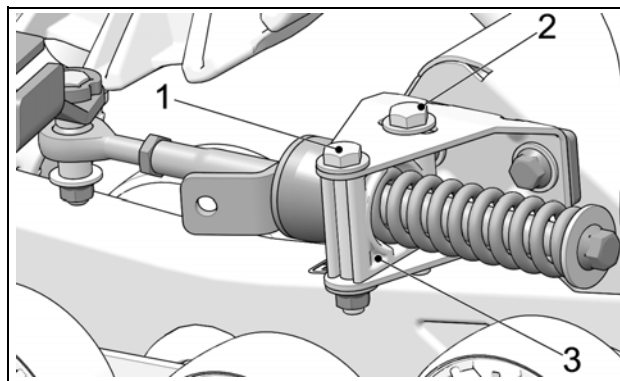

Figure 6
- Loosen anti-rotation bracket bolts (1) and (2) to allow the anti-rotation retainer (3) to rotate freely on its axis. See Figure 6.